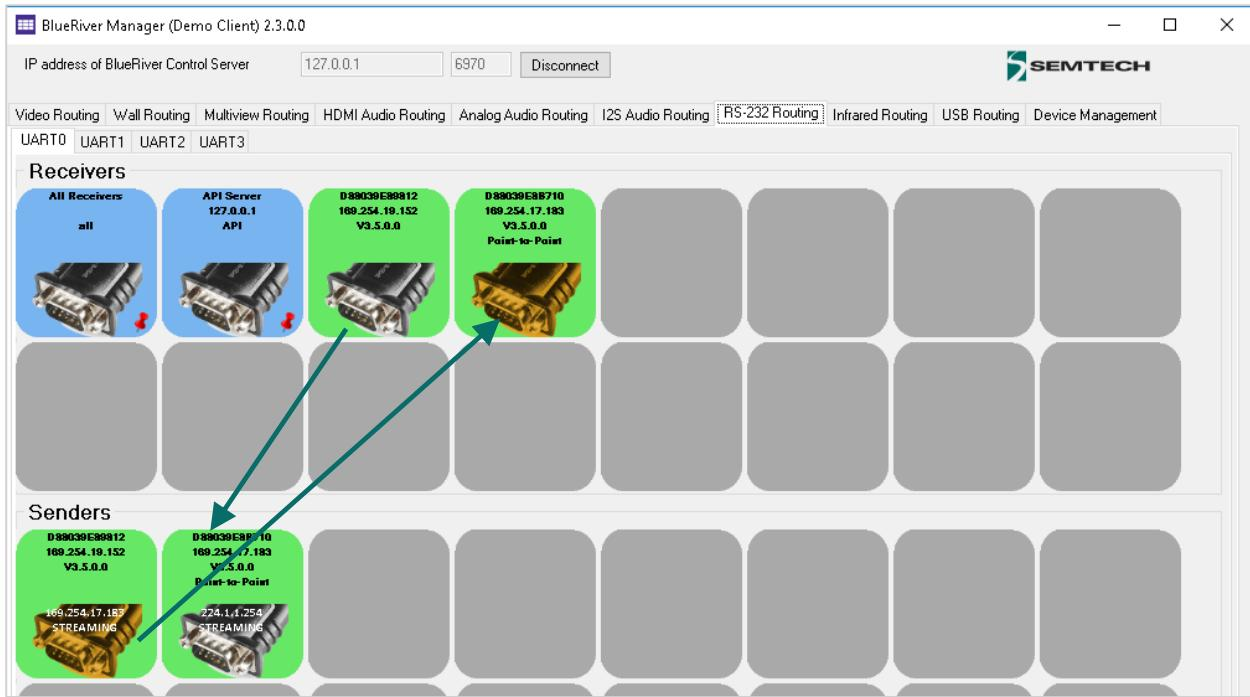

Figure 30: RS-232 Routing - 2-Way Pairing of Devices
2. It is not likely required to create a two-way Infrared path but is possible to do so. Create two separate pairings in the same way as it is done for RS-232, drag Sender to Receiver than repeat pairing in reverse. Refer to Figure 30: RS-232 Routing - 2-Way Pairing of Devices.